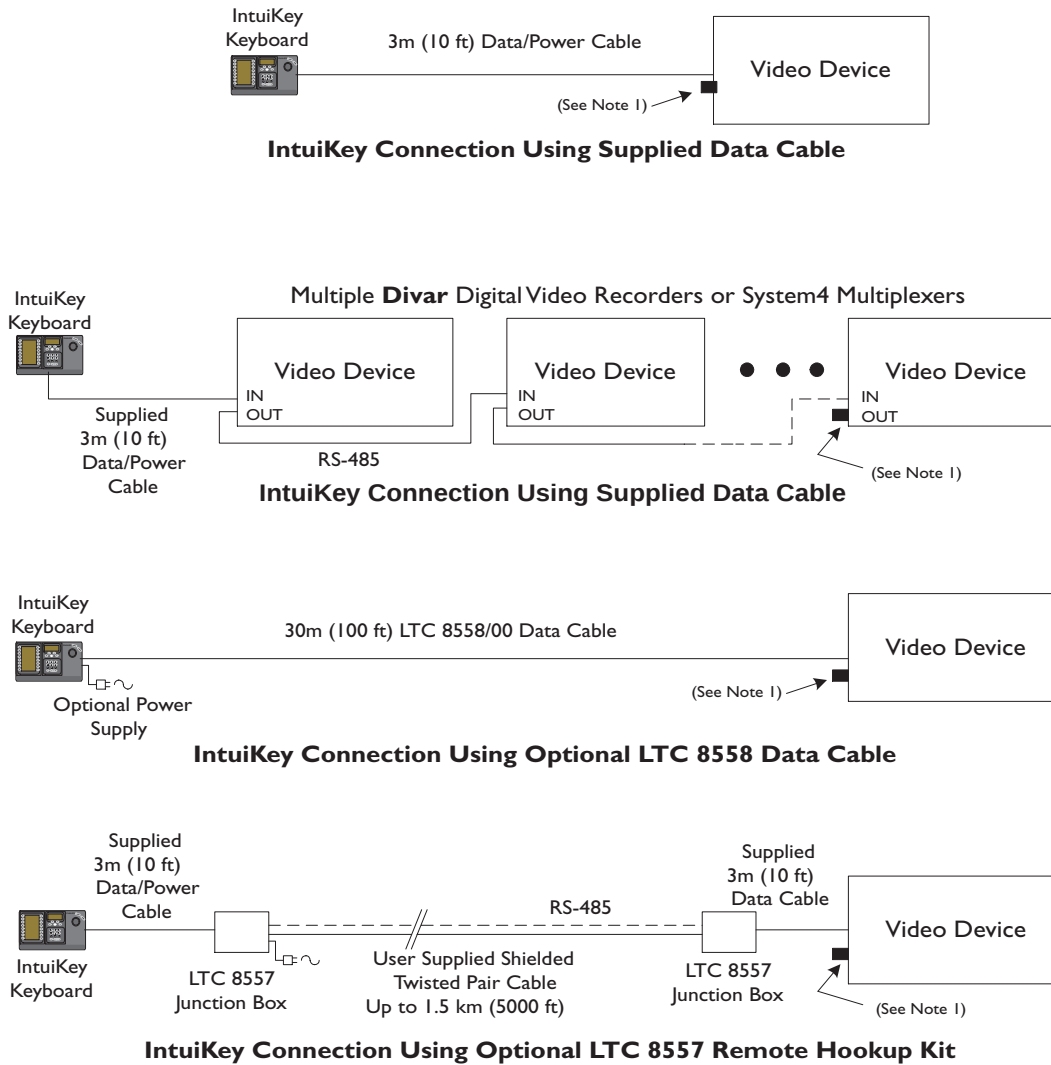

Figure 2-4 Typical Intuikey Connection Options
2. Review the configuration options shown in **Figure 2-4**. Make the necessary keyboard data and power connections that are best suited to your system requirements based on these diagrams. When connecting to **Divar** DVRs or **System4®** Multiplexers, attach the supplied 390 Ohm terminator to the **Out** connector on the last device.